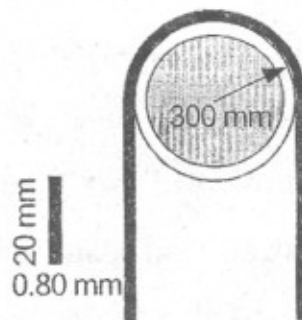

Fig. 7
5. (a) A high strength steel band saw, 20 mm wide by 0.80 mm thick, runs over pulleys 600 mm in diameter as shown in Fig. 7. What maximum flexural stress is developed ? What minimum diameter pulleys can be used without exceeding a flexural stress of 400 MPa ? Assume $E = 200 \text{ GPa}$. [8]